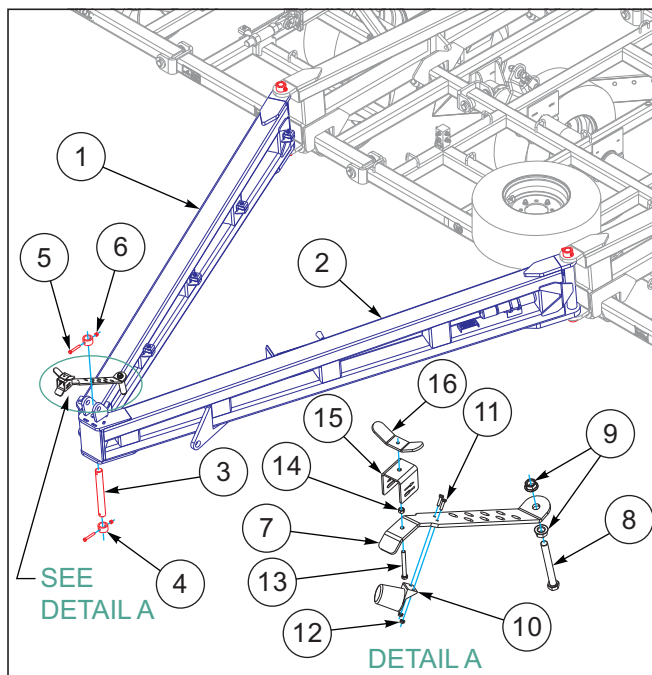

Figure 3-2: Hitch Field Assembly
3. Swing RH, (1) and LH (2) hitch weldments until holes are aligned in front, slide 1.75" x 14-7/8" hitch pin (3) through holes, install collar (4) on top and bottom, secure with 1/2"-13 x 3-1/4" cap screws (5) and 1/2"-13 lock nuts (6) as shown See Figure 3-2.
4. Attach the hose holder bracket (7) with 3/4 x 7 bolt (8) and 3/4 flange nuts (9). Install the stor-a-way harness (10) to bottom of hose holder bracket (7), using 1/4 x 1 bolts (11) and 1/4 lock nuts (12). Attach the hose holder clamp (15) to top of the hose holder bracket (7), secure with 3/8 x 3-1/2 all thread bolt (13), 3/8 hex nut (14) and wing nut (16). Do not tighten wing nut (16) until all hoses are run through clamp.